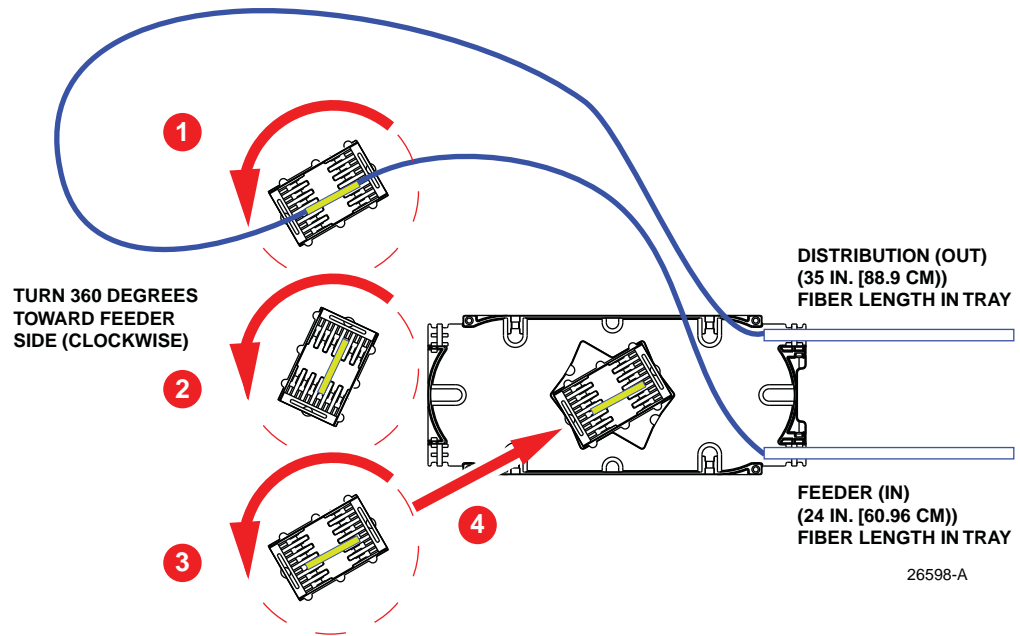
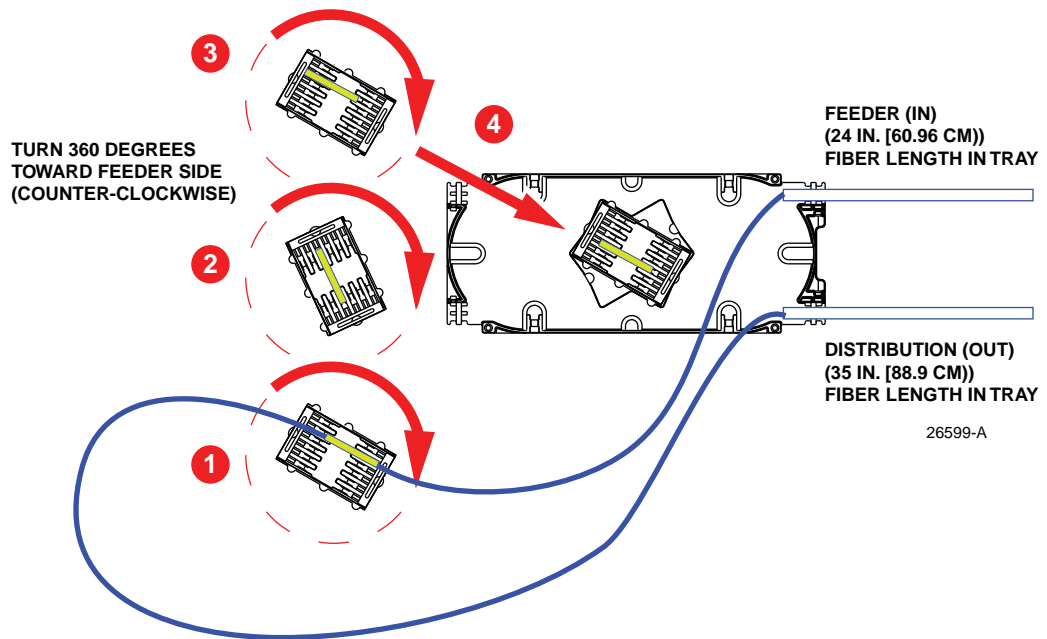

Figure 32. Winding the Splice Chip Back Into Tray
Figure 33. Winding the Splice Chip Back Into Tray
4. Ensure that the bare fiber lengths of the distribution and feeder fibers are as shown in Figure 32 (distribution fiber on top) or Figure 33 (feeder fiber on top). Note that the lengths are different for the distribution and feeder fibers.
6. For the configuration being used, wind the splice chip back into the splice tray as shown in Figure 32 or Figure 33.